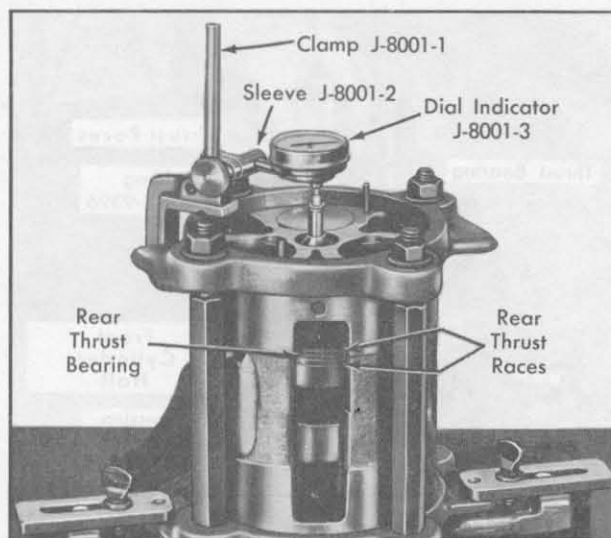

Fig. 1-88 Gaging Rear Thrust Race
20. Mount Dial Indicator, J-8001-3, on edge of Compressing Fixture with Clamp, J-8001-1, and Sleeve, J-8001-2, Fig. 1-88. Position Dial Indicator on rear end of shaft and adjust to zero. Push front end of shaft upward and record measurement.